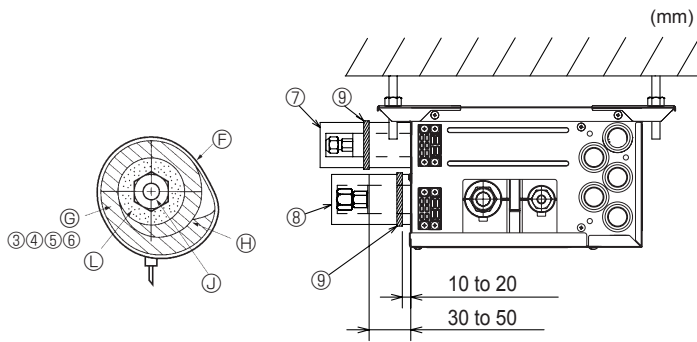
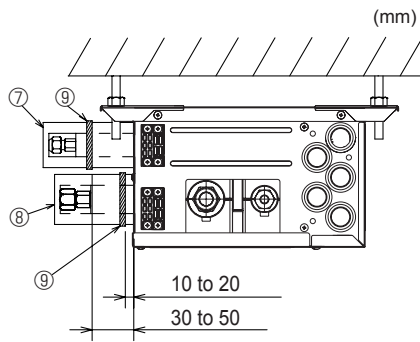

Fig. 7-3
Fig. 7-4
- (1) Remove the flared nuts and caps from the branch box.
- (2) Flare the ends of the liquid and gas piping, and apply refrigeration oil (procure locally) to the flared seat. Do not apply oil to the threaded portion.
- (3) Connect the refrigerant piping immediately. Always tighten the flared nuts to the torque specified in the table 2 using a torque wrench and double spanner.
- (4) Press the pipe covers ③ and ⑤ on the liquid piping against the unit and wrap to hold in place. (Fig. 7-3)
- (5) Press the pipe covers ④ and ⑥ on the gas piping against the unit and wrap to hold in place. (Fig. 7-3)
- (6) Apply the supplied bands ⑨ at a position 10 - 20 mm from each end of the pipe covers (③④⑤⑥).
- (7) If the indoor unit is not connected, fit the supplied pipe covers (with caps, ⑦ and ⑧) to the branch box refrigerant piping connections against the unit to prevent condensation dripping from the pipes. (Fig. 7-4)
- (8) Clamp the pipe covers (⑦⑧) in place with the supplied bands ⑨.
- Ⓕ Band ⑨
- Ⓖ Pipe covers ③④⑤⑥
► Use the following procedures for indoor connection part which indoor unit is not connected. (Fig. 7-4)
- (1) In order to prevent refrigerant leaks, make sure that the flare nuts are tightened according to the specified torques* in Table 3.
- (2) In order to prevent condensation, install the pipe covers ⑦ ⑧ against the unit and fasten them with the supplied bands ⑨ .